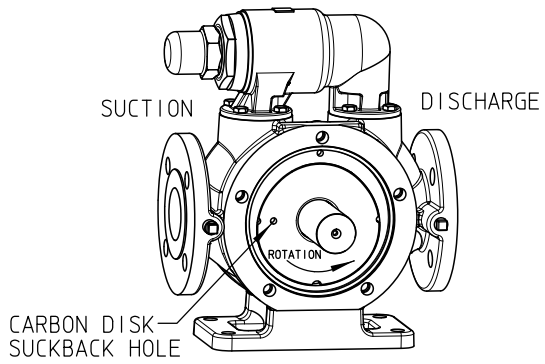

FIGURE 8
5. Install one carbon disc into casing, being careful to line up the disc hole with the suction side lubrication holes per **figure 8**.
11. Install the second disc outside of rotor. Ensure the hole in disc is on suction side. See **figure 8**.